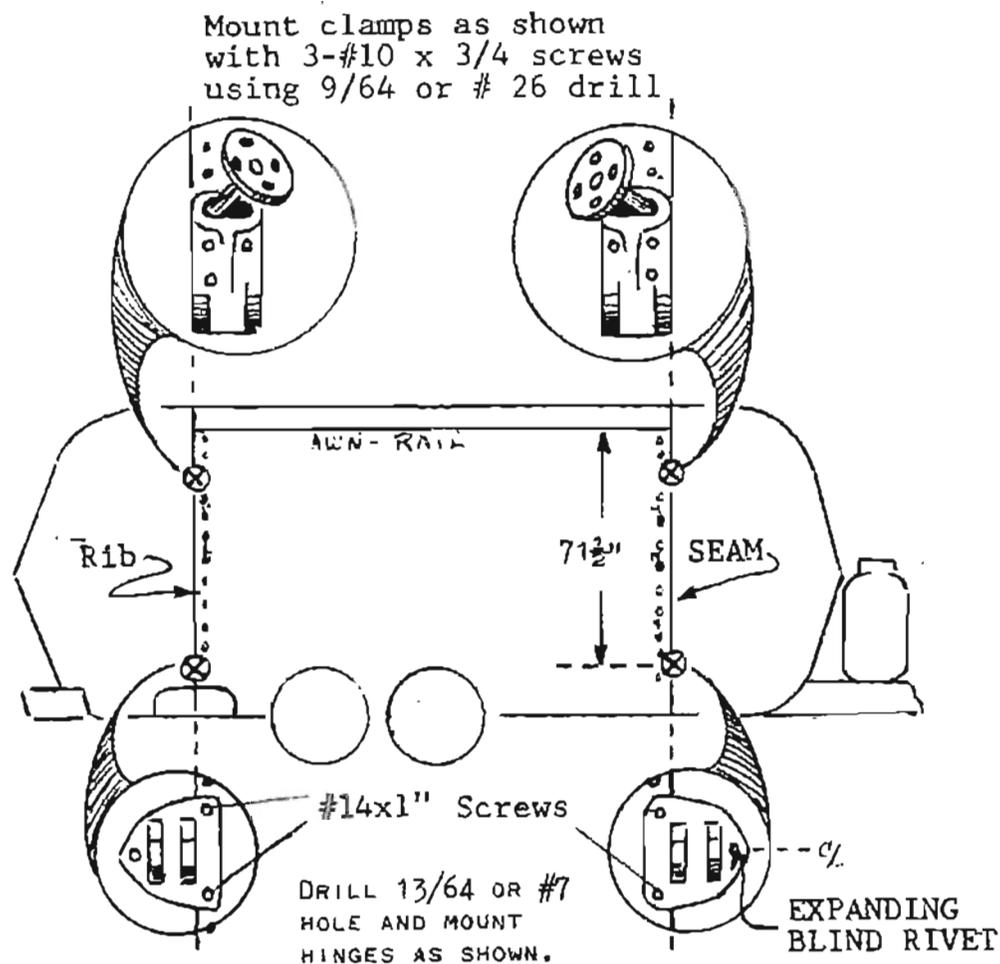

Fig. 3
- STEP 3. MOUNT HINGES ON RIBS (RIVETS FALLING IN LINE WITH HOLES OF HINGE) AS SHOWN IN FIG. 3.
- STEP 5. MOUNT CLAMPS ON MARKS ABOVE, IN LINE WITH RIBS OF COACH AS SHOWN IN FIG. 3. ATTACH PROPER SPRING ARM ASSEMBLY TO EACH CLAMP (SEE FIG. L).